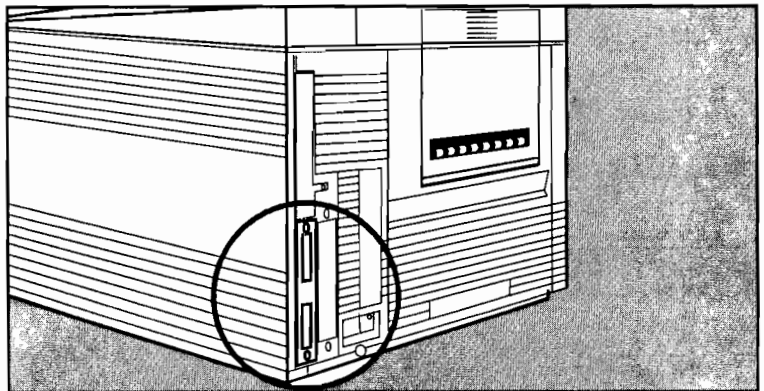

Figure 3-5. Locating the Accessory Slot
2. Locate the accessory slot at the rear of the printer on the lower, left-hand side. See Figure 3-5.